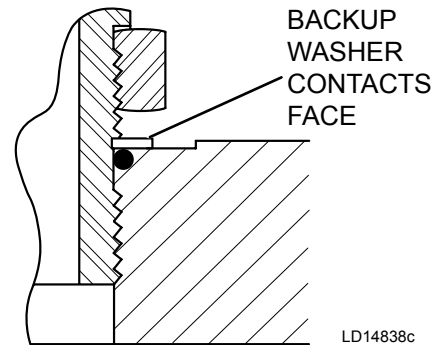

FIGURE 30 - SCREW FITTING INTO PORT
5. Screw the fitting into the port until the backup washer contacts the face of the port as shown in *Figure 30 on page 47*. Light wrenching may be necessary.